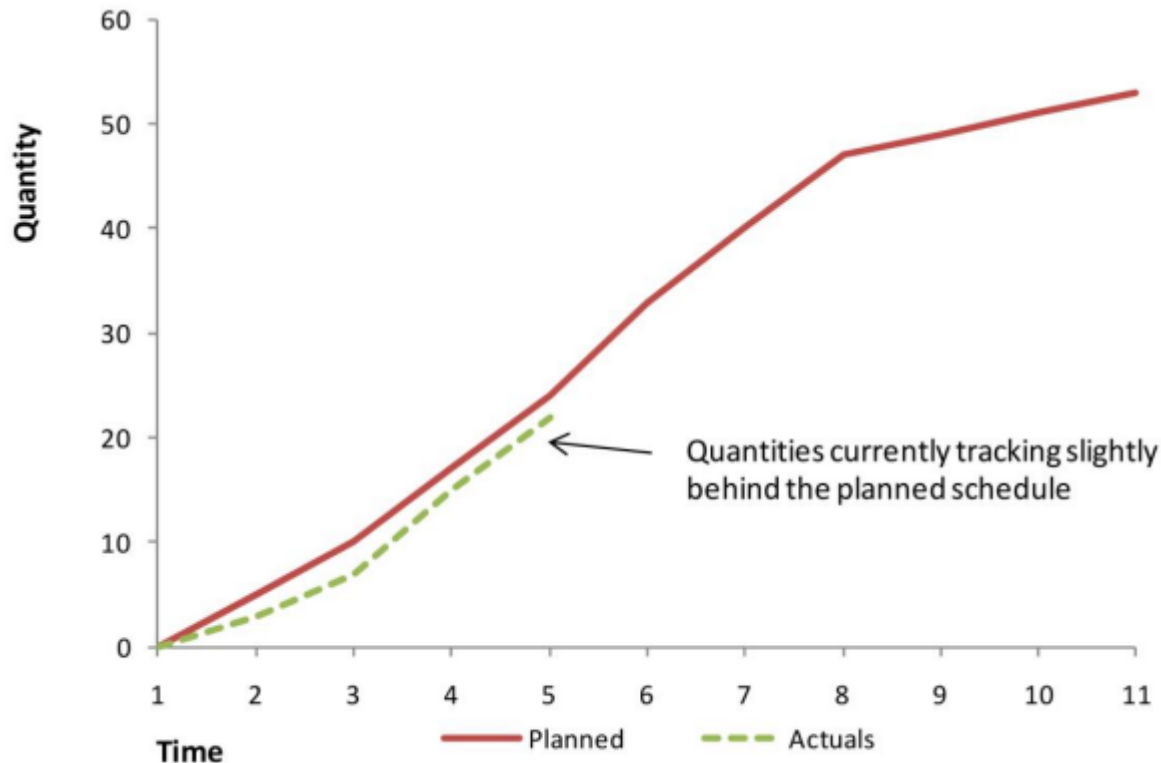

Figure 4 – Quantity Output S-Curve
- ❑ For comparative purposes one could plot planned versus actual quantities (See Figure 4).